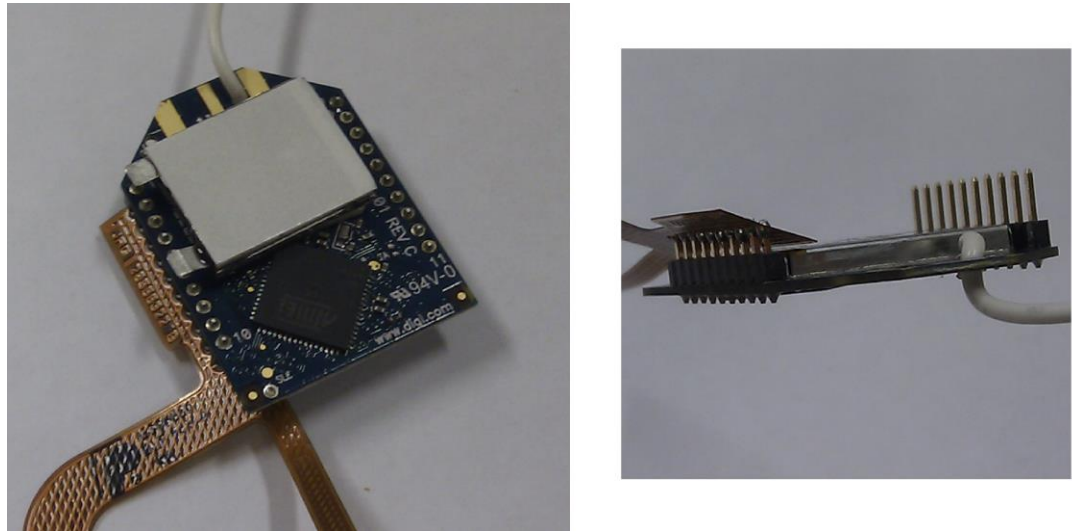

Figure 4. The soldering of the flex print to the RF-module.
3. The Flex print JRG 20566322 (version B) is soldered askew to the cut connectors of the RF-module as shown in Figure 4.
4. The flex print is soldered to the super-conductor as shown in Figure 4.